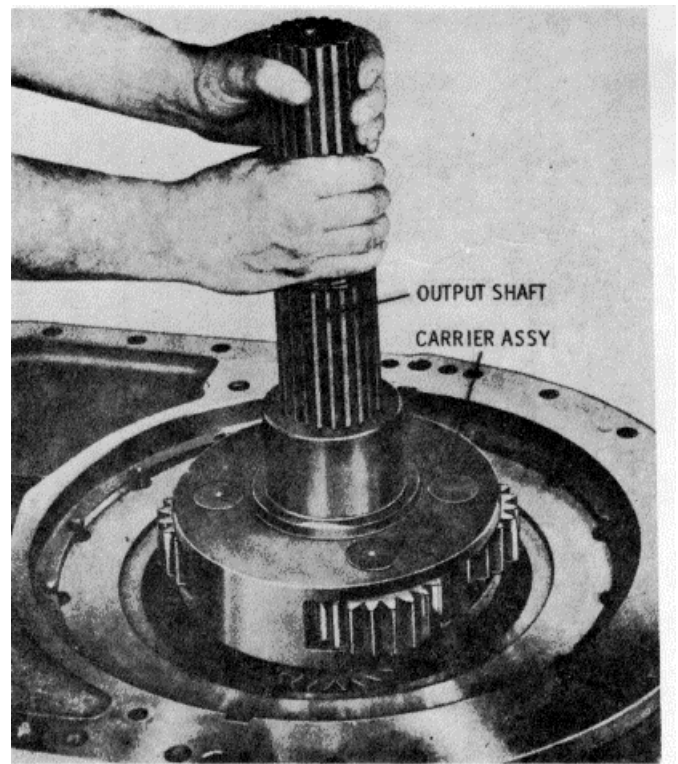

Figure 15-71. Removing Output Shaft and Low-Range Planetary Carrier Assembly
5. Remove the low-range planetary carrier assembly and transmission output shaft, as a unit, from the transmission (Figure 15-71). Remove the output shaft from the carrier assembly.